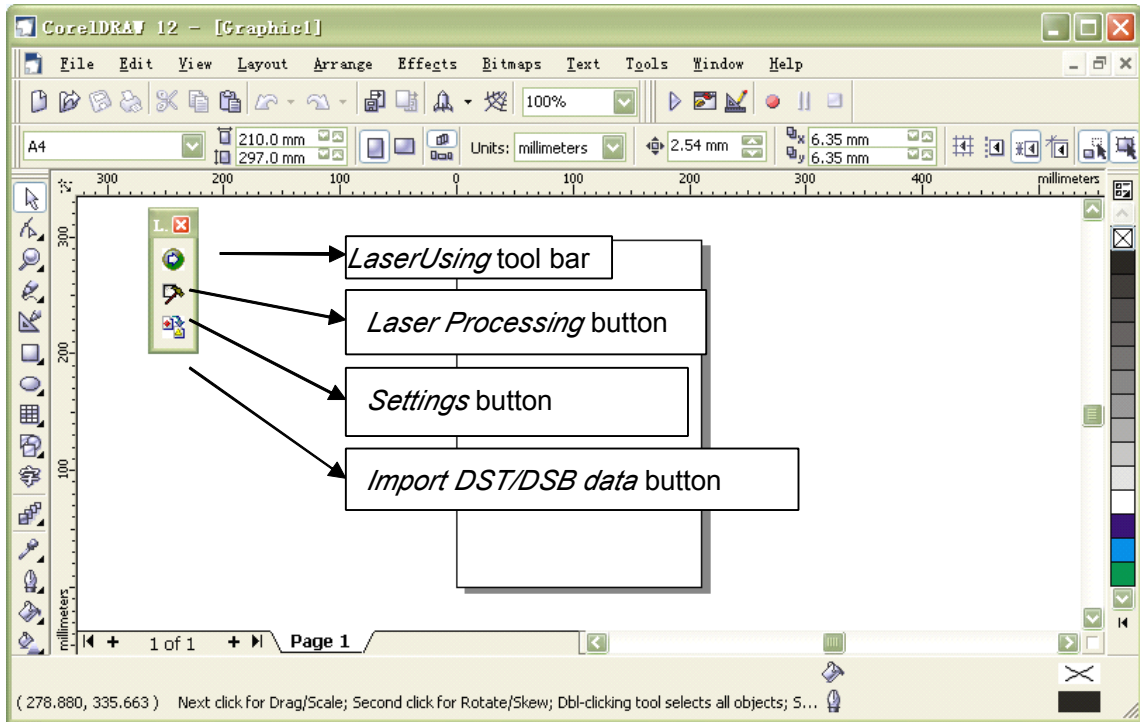

Figure1-6 CoreDraw main menu
1. Open CorelDraw11 or CorelDraw12, will pop up the main menu of CorelDraw as shown in figure 1-6: